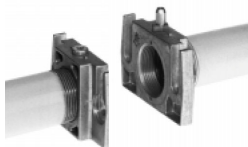

Fig. 9
1. Mount flange onto tube lines: use appropriate sealing agent (see Fig. 9);
2. insert MB-DLE: note position of O rings (see Fig. 9);